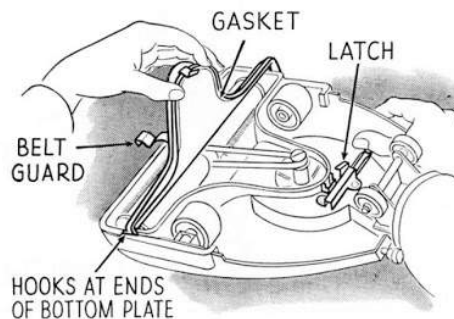

FIG. 90—One-piece cleaner bottom plate
3. Figure 90 illustrates a type of cleaner bottom plate held in place with a spring latch and having a gasket cemented to its inner edges. In this type a new plate should be installed if the gasket is broken or missing.